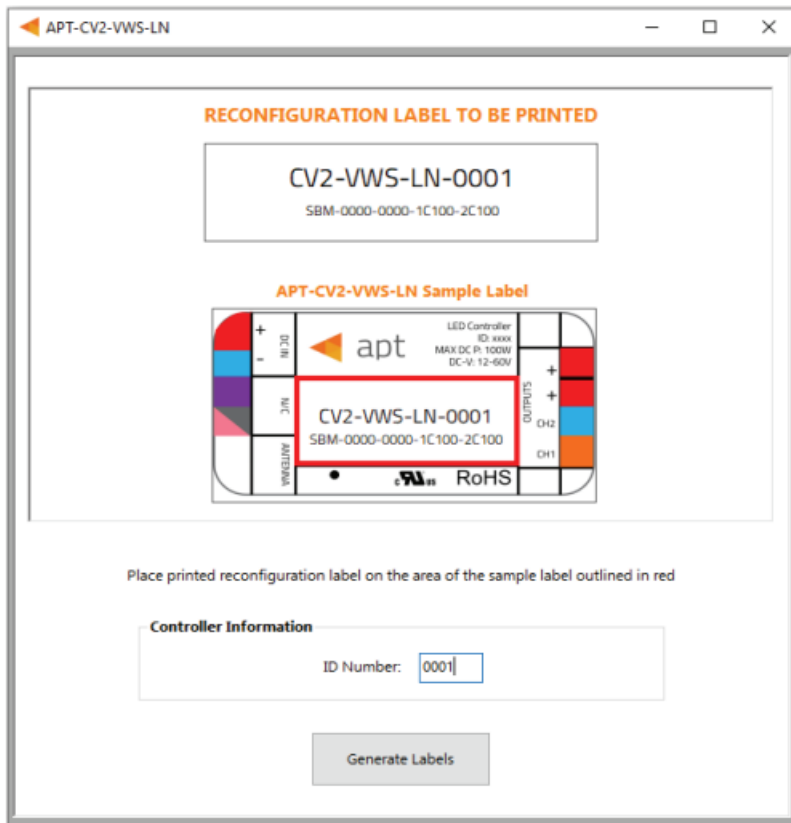

Figure 13: Label Generation window
1. Select **File > Generate Label** or press **Ctrl +L** to open the Label Generation window (shown in Figure 13).
2. Input the 4-digit ID Number written on the original label (shown in Figure 13). The ID Number indicates the production build of the APT Controller.